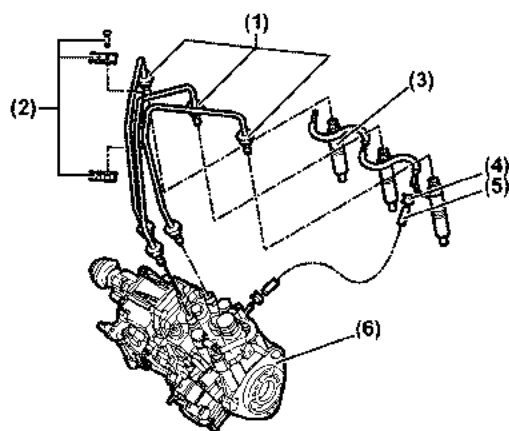
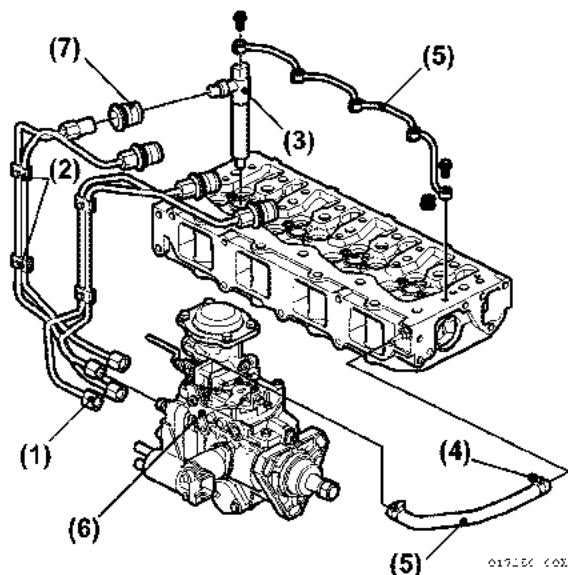

Figure 6-15
Figure 6-16
4. Loosen retainer bolts on fuel injection line(s) (Figure 6-15, (2)) and (Figure 6-16, (2)).